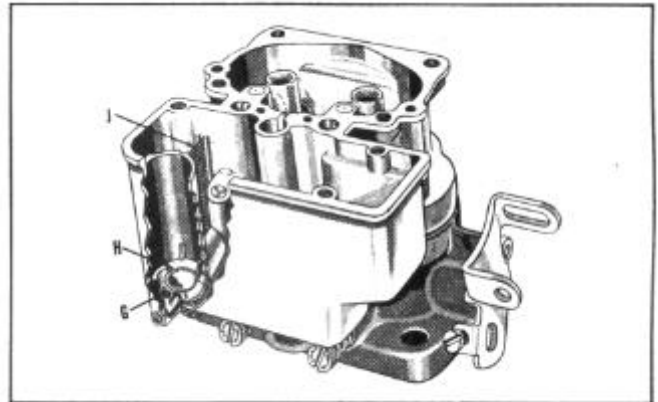

FIGURE 71
7. Install the intake ball check (G), Figure 71. Then install the retainer ring (H) and the strainer (I).